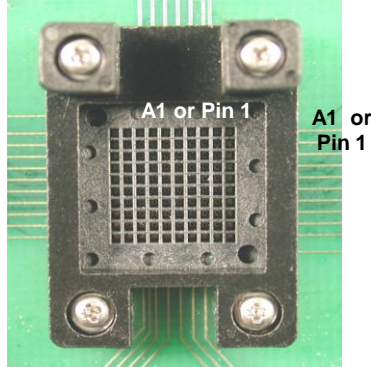

FIGURE 1 - Check & adjust the alignment gauge for proper positioning on the PC board.
2.0	<p>Properly orient the alignment gauge on the PC board so that position "A1 or Pin 1" of the alignment gauge aligns with position "A1 or Pin 1" on the PC board and insert the alignment gauge into the PC bd, FIGURE 1.</p> <p>NOTE: Position "A1 or Pin 1" in FIGURE 1, above, is for reference only. Please refer to the LIC catalog drawing for the particular socket that you may be using for the correct location of position "A1 or Pin 1", as position "A1 or Pin 1" varies from socket to socket.</p>